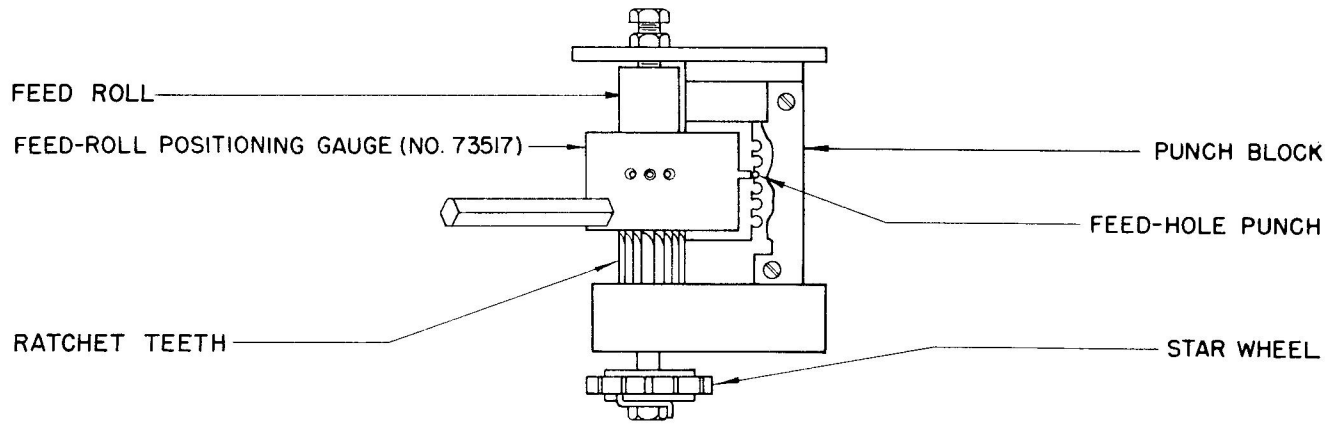

FIGURE 7
g. FEED ROLL DETENT - PRELIMINARY (FIGURE 7)